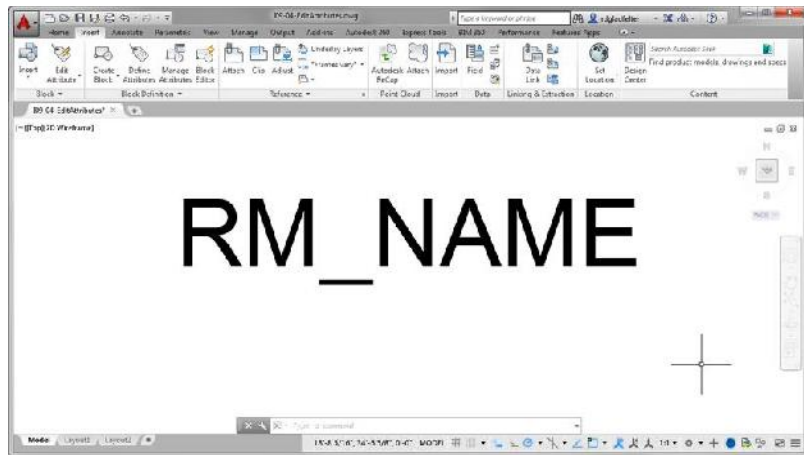

FIGURE 9.16: The room name attribute definition placed in the drawing
16. In the drawing, click above the cabin and between the B and B1 gridlines. This places the first attribute definition in the drawing (see Figure 9.16).